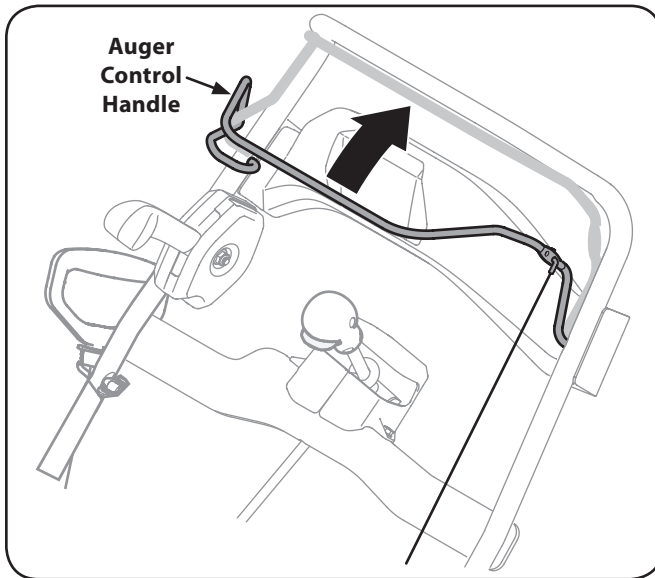

Figure 5-1
1. To engage the auger and start throwing snow, squeeze the auger control against the handle. Release to stop the auger. See Fig. 5-1.